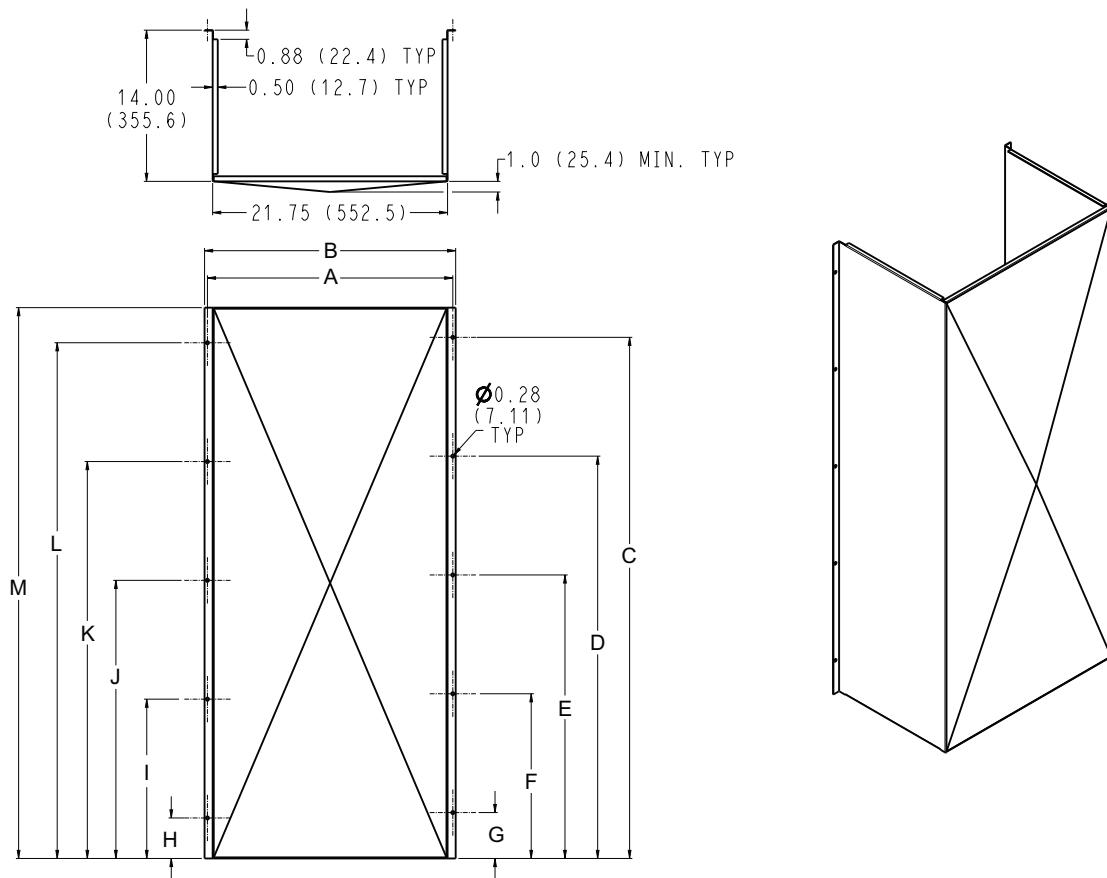

Fig. 39 – Cabinet C – Side Baffle E (Front/Top View)
- For 48/50GC**24, 50FCQ*24-28, 581K/551K*24, 547K*24-28, RGW/RW240, and RHW240-300 units, use Fig. 34, Fig. 39 and 42, and Table 6.
- For 48/50GC**28, 581K/551K*28, and RGW/RW300 units, use Fig. 36, Fig. 39, 41, and 43, and Table 6.